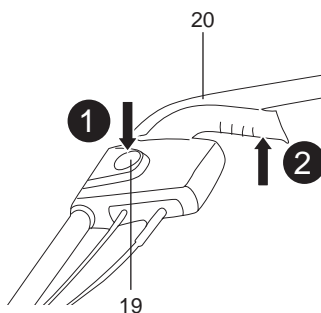

Fig. 21
- Press the lock-off button (19) and press the On/Off lever (20) against the handle (1), hold it in position during operation (Fig. 21).